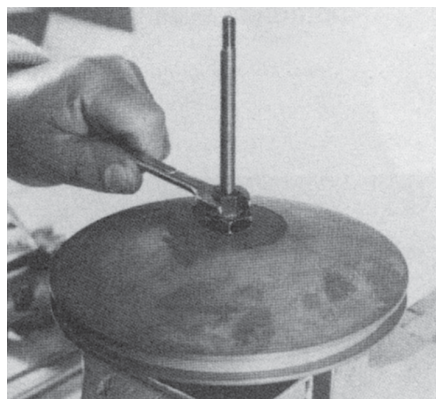

Figure 7-4 Tightening shifting nut to secure connecting rod into fluid piston.
7.5 Insert lockwasher (39) under shifting nut (40) and hold washer next to under side of shifting nut (40). See Figure 7-3. Screw connecting rod (37) end into the threaded end of the fluid piston (16 or 27) until the rod bottoms solidly. Torque shifting nut (40) tightly against plain nut (38) to secure connecting rod. See Figure 7-4.